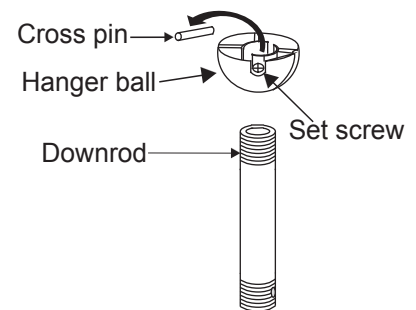

Fig. 7
**Step 5.** Remove the hanger ball from the downrod assembly by loosening the setscrew, removing the cross pin and turning the ball off the downrod. (Fig. 7)